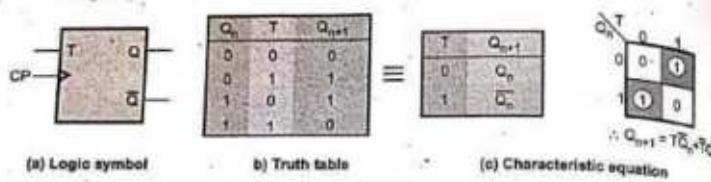

Fig. 5.4.27
- As shown in the Fig. 5.4.27, the T flip-flop is obtained from a JK flip-flop by connecting both inputs, J and K together.
- The Fig. 5.4.27 shows logic symbol, truth table and the characteristic equation for T flip-flop.